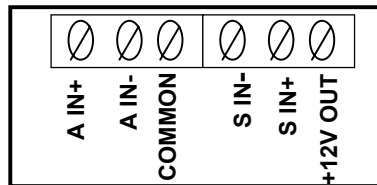

Figure 18
6. Insert one of the sensor's signal output wires and one of the sensor's alarm output wires into the **COMMON** terminal and secure the wires by turning the terminal's screw clockwise. (Refer to the MX001 box or to Figure 18 for the order of the terminals for the sensor wires.)